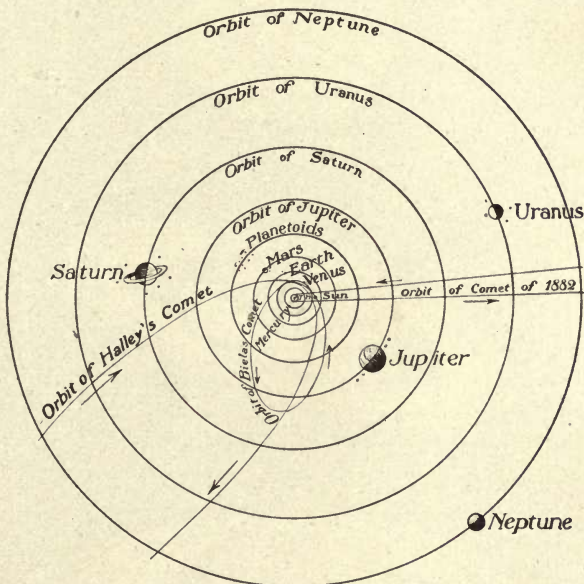

FIG. 1. — The Sun and Planets.
**The Planets.** — The names of the planets comprising the solar system, beginning with the one nearest the sun, are: Mercury, Venus, Earth, Mars, Jupiter, Saturn, Uranus, and Neptune (Figure 1). Because of their motion around the sun the planets are continually changing their positions in relation to the other stars, whereas the positions of the true stars do not appear to change relatively to one another. It is due to this change of position that they are called planets — from the Greek word meaning wanderer. The amount of time required by the several planets to make a revolution about the sun of course varies to a considerable degree, due to the great difference in distance which they have to travel. This difference in time of revolution accounts for their change of position in relation to each other.